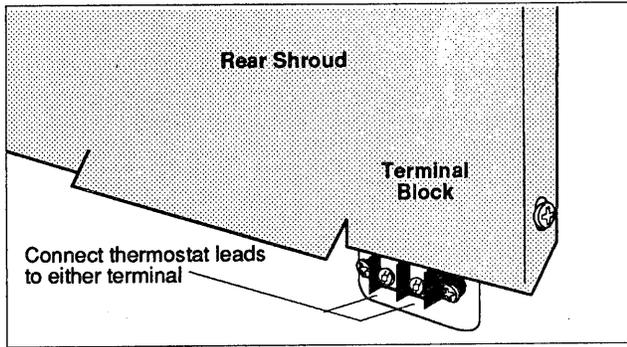

Figure 23. Thermostat Connection.
Step 8. Connect the wall thermostat leads to the double terminal block at the lower left corner of the firebox base. Fig. 23. Either wire may be connected to either terminal. Note in the table below the appropriate gauge wire to use for the length of lead needed.